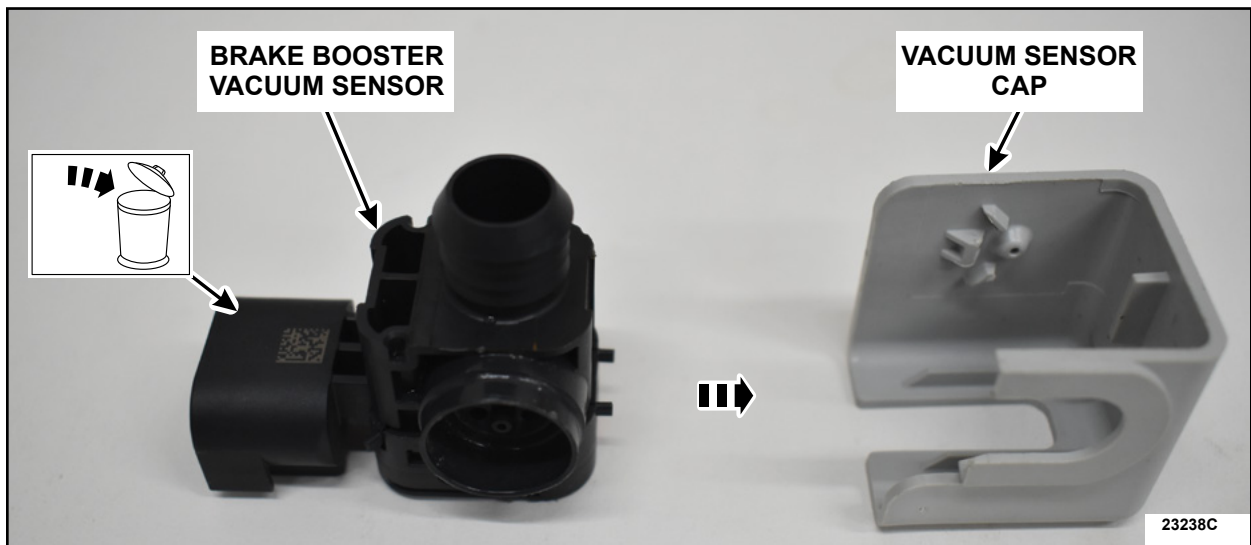

FIGURE 3
3. Remove the vacuum sensor cap. Discard the brake booster vacuum sensor See Figure 3.